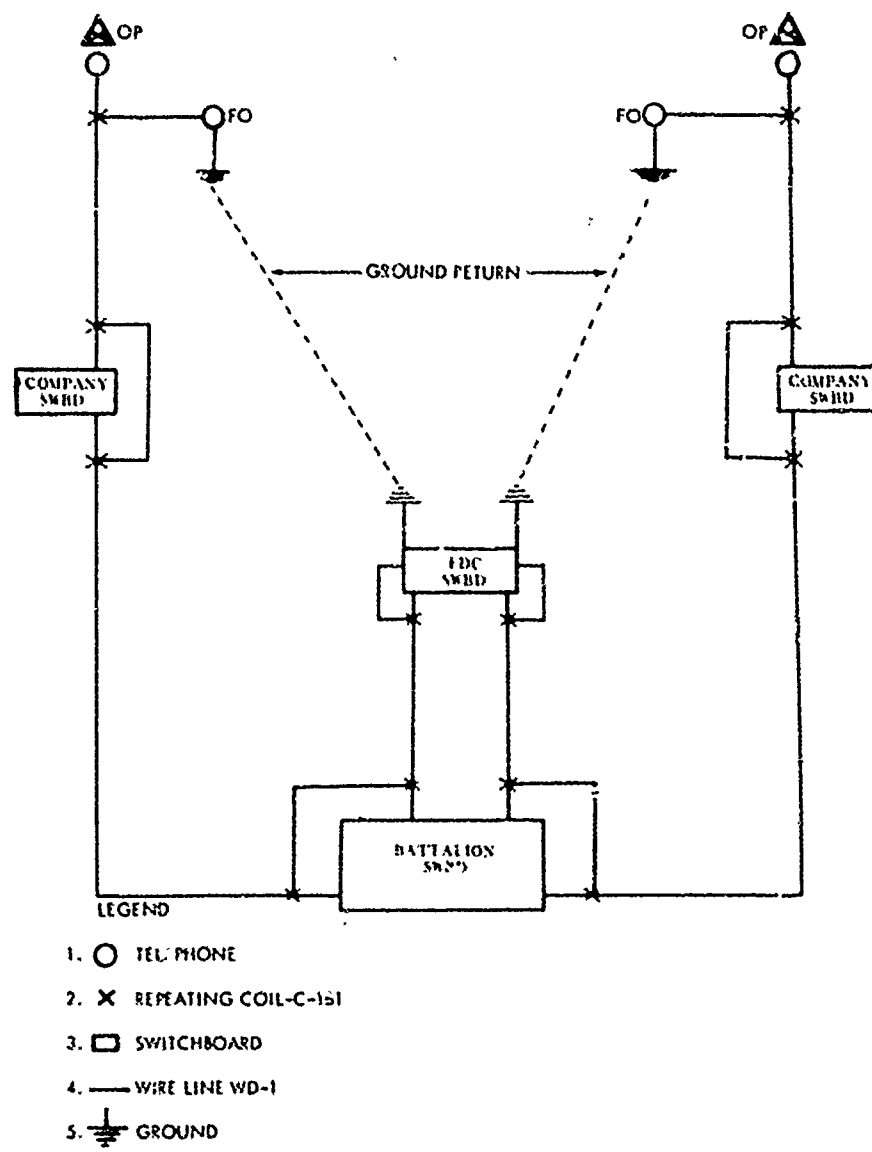

Figure 9-17. Forward Observer Hot-Line.
(1) Under the existing wire system of the 11v Mort platoon, there are no provisions, neither personnel nor equipment, to permit the FO to enter the wire system.
(2) If he does so, there are still two or three switchboards that he must go through to connect the FDC. This is slow and time consuming. What he needs is a simple and rapid method of entering the wire system. The need can be answered with the "Hot Lines" which bypass the Company and Battalion switchboards and enables the FO to contact the FDC direct. Utilizing repeating coils C-161 and a small amount of wire, a private wire line can be established over existing wire lines. The repeating coils must be requested as they are not issued to the FO under TOE. The method for using these repeating coils is the simplex circuit arrangement.
(3) One coil is connected in the OP to company wire line at a point nearest the FO's position. The FO's telephone is then connected with a ground return. The next coil is connected in the wire line before it reaches the company switchboard and forms a bypass to the other side of the switchboard connecting in the company to battalion line with another repeating coil. The fourth coil is placed in the company to battalion wire line at a point nearest the FDC. From this coil a line is connected into the FDC telephone or switchboard with a ground return and the "Hot Line" is complete.
(4) This permits simultaneous communications over one wire line, the OP to company and the FO to FDC, without interference. Equipment not properly utilized does us little good. The 'Hot Line' is one method that will help improve your wire capabilities. Clear? ? ? See Figure 9-17.